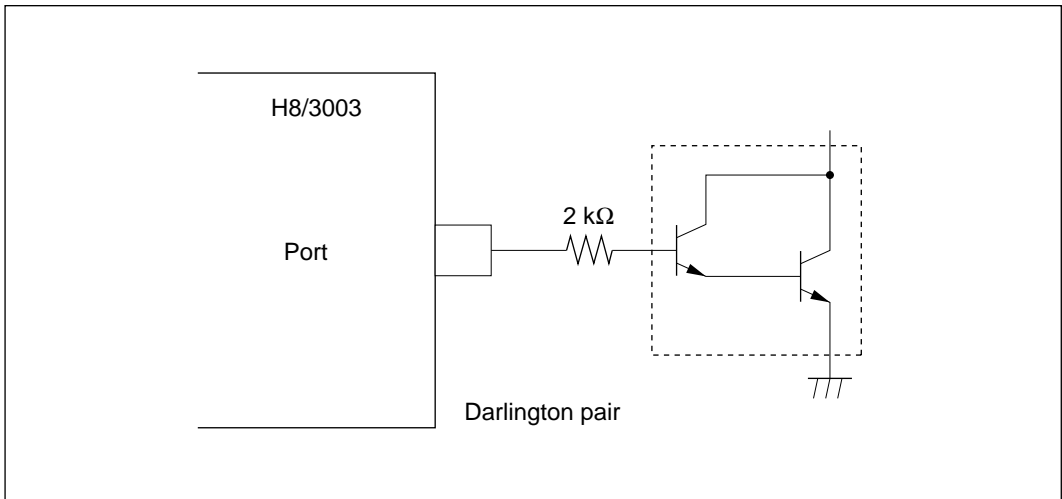

Figure 18-1 Darlington Pair Drive Circuit (Example)
2. When driving a darlington pair or LED, always insert a current-limiting resistor in the output line, as shown in figures 18-1 and 18-2.